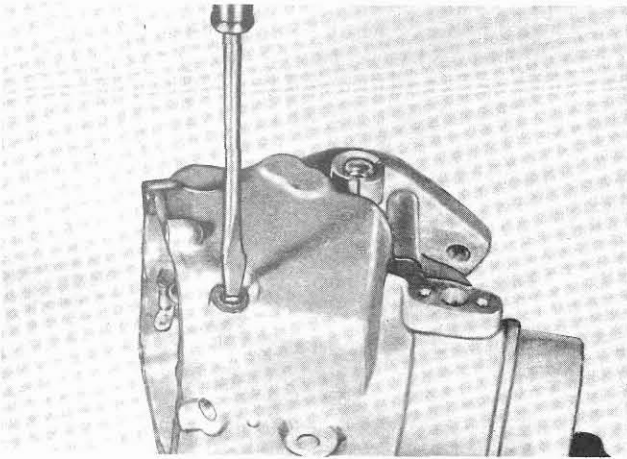

Figure 2-15. Preliminary Adjustment of Power Needle
b. Rotate the power needle down carefully until it seats. (See figure 2-15.) Avoid excessive tightening as this would damage the seat. Then back needle out three turns.